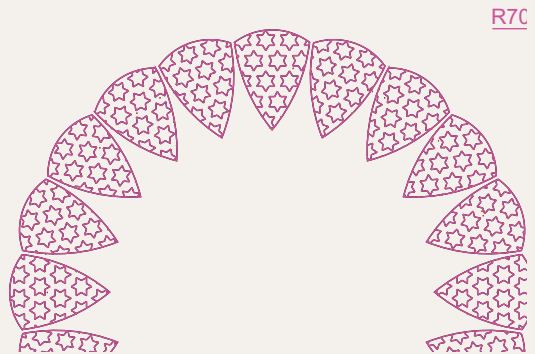

Fig. 8.26 Exercise 7
7. Construct Fig. 8.26 as follows: